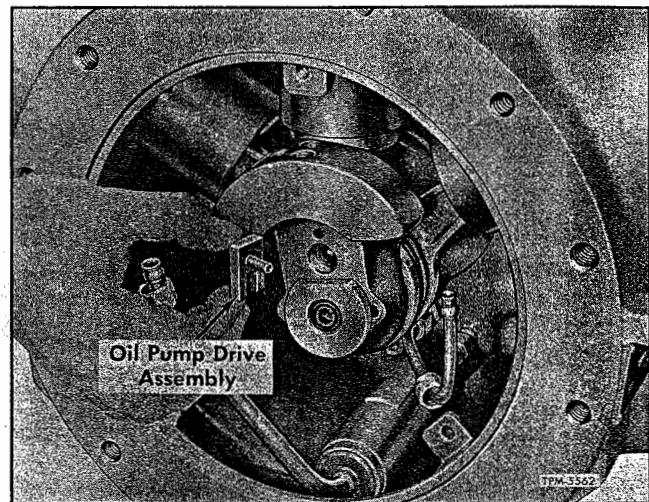

Figure 16—Removing Oil Pump Drive Assembly
1. Remove the oil pump drive assembly (36) in manner shown in figure 16.
7. Insert the oil pump drive assembly (36) in manner shown in figure 16.